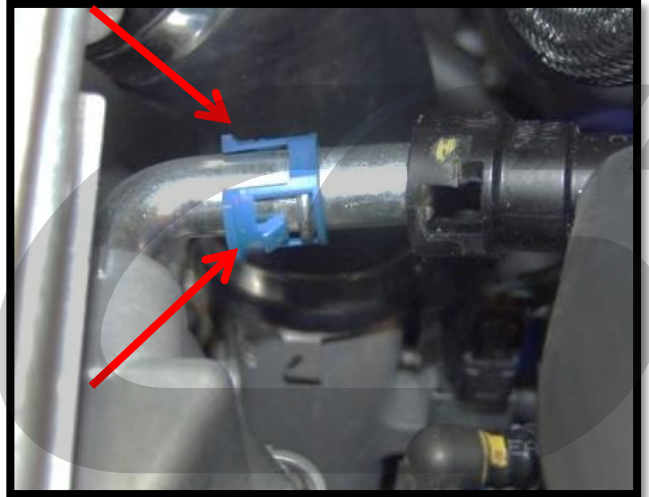

Figure 1d
- e) Remove the valve cover breather tube from the rear right of the valve cover. Push the hose connector toward the valve cover and press both sides of the colored clip simultaneously. Then pull the hose away from the valve cover. Hose shown removed in **Figure 1d**.